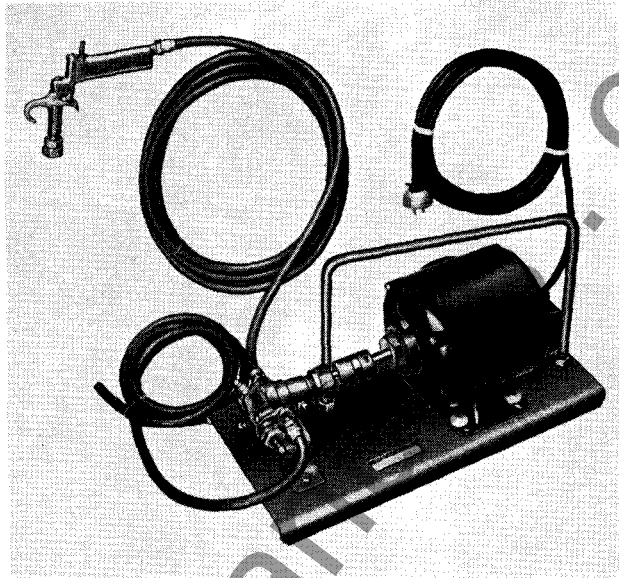

Fig. 22 Electric Adhesive Applicator
**Electric Adhesive Applicator** is supplied with large units. See Fig. 22. The gear type pump will suck adhesive from the container. Pump pressure for best spray pattern can be obtained by adjusting the pressure regulator. See instruction tag furnished with applicator.